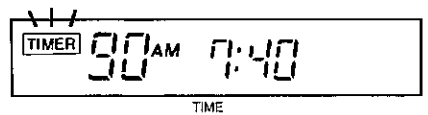

Fig. 20
4. Press the MINUTE switch while the TIMER indicator is blinking (set to 40 minutes). (Fig.20)